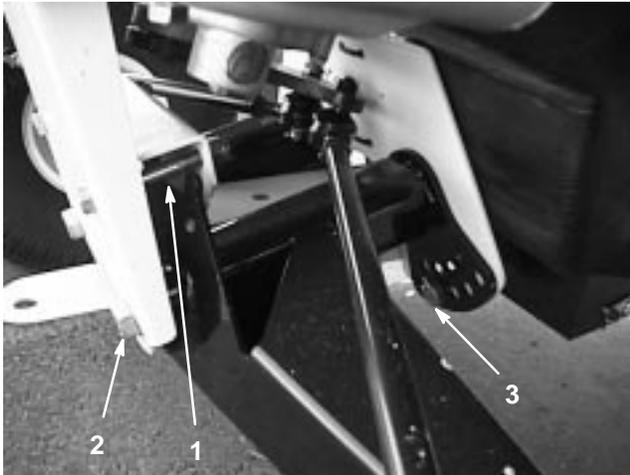

Figure 33
2. Remove the travel limiting bolt (Fig. 33).
3. Loosen the centering bolts in the front “A” frame (Fig. 33).
4. Remove the ride height adjustment bolt (Fig. 33).
5. Rotate the front “A” frame to the desired position (Fig. 33). The distance from the bottom side of the front hitch to the ground should be 9 to 9-3/4 in. (22.9 to 24.8 cm) with the tires inflated to 12 psi (83 kPa).
6. Replace the ride height adjustment bolt and the travel limiting bolt (Fig. 33).